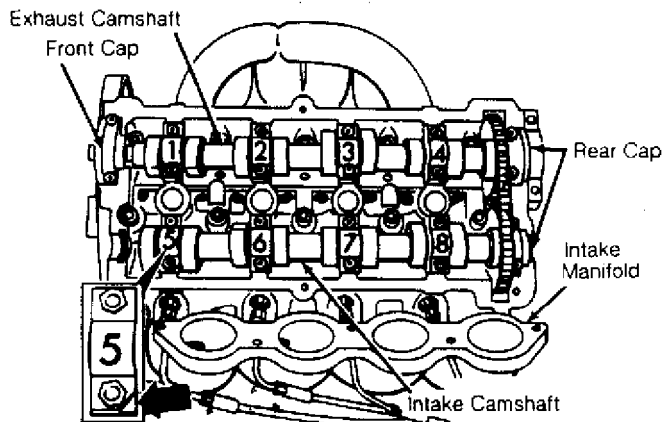

Fig. 16: Identifying Camshaft Bearing Caps (2.0L)
2) Remove intake camshaft bearing caps No. 5, 7 and rear cap evenly a little at a time. See Fig. 16. Loosen remaining intake camshaft bearing caps evenly a little at a time. Remove exhaust camshaft bearing caps No. 1, 3, front cap and rear cap evenly a little at a time. Loosen remaining exhaust camshaft bearing caps evenly a little at a time. Remove camshaft bearing caps. Lift both camshafts out of cylinder head together.
2) Install intake camshaft bearing caps No. 6 and 8 and tighten evenly a little at a time. See Fig. 16. Repeat procedure for remaining intake camshaft bearing caps. Install exhaust camshaft bearing caps No. 2 and 4. Tighten evenly a little at a time. Repeat procedure for remaining exhaust camshaft bearing caps. To complete installation, reverse removal procedure. Before starting engine, allow 30 minutes for cam followers to bleed down.